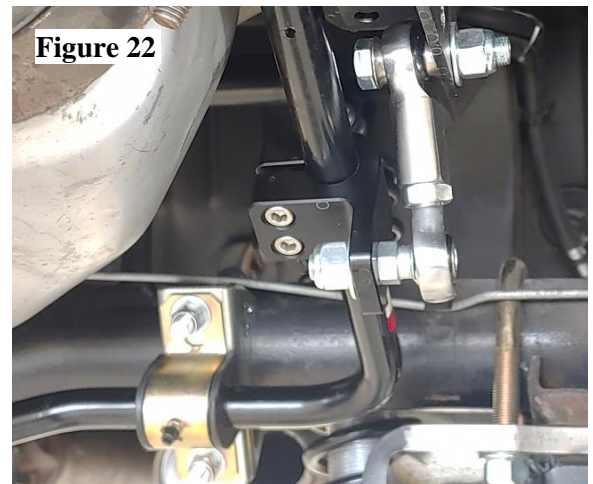

Figure 22
5. With the legs of the bar held up to the frame rail, determine the best location for the mounting bracket (inside or outside of the frame rails) for the end link to be installed. The bar clamp will be installed on the bar with the end link mounting hole outboard of the bar, with the end link hole either above or below the bar. (Figure 22) The length of the sway bar going through the bar clamp is only dependent on the best fitment around the fuel tank and axle.